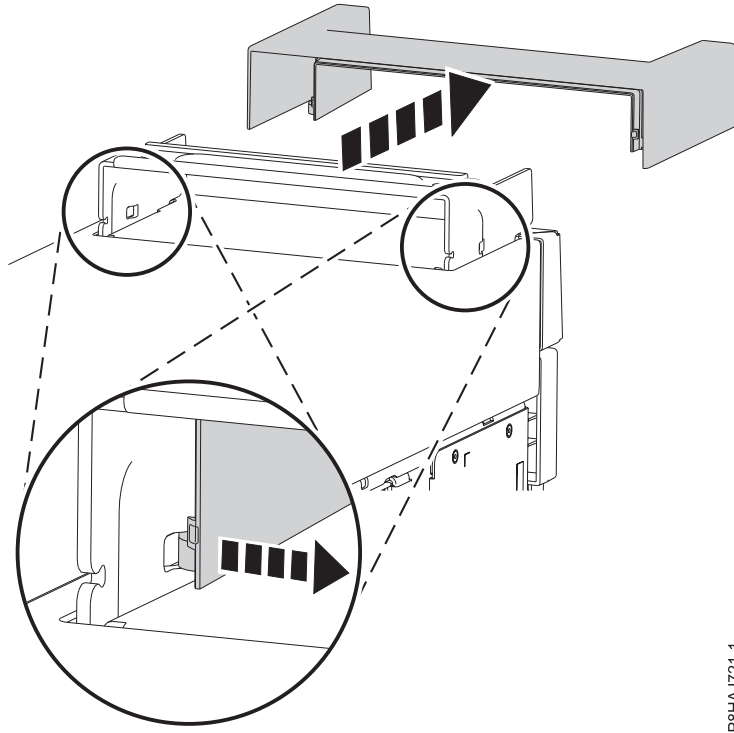

Figure 11. Removing the handle cover from an 8286-41A stand-alone system
3. Remove the handle cover by sliding it toward the front of the system then lifting upwards. See Figure 11 on page 31.